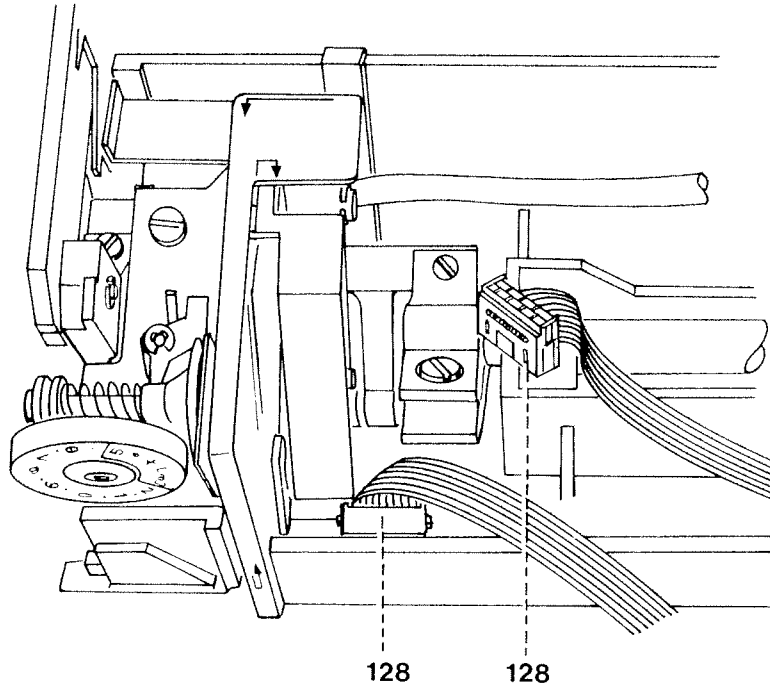

Fig. 32
- Disconnect plug 128 from the ten-pin base upwards (Fig. 32).
- Connect plug 128 of the connection cable to the control board (Fig. 32).